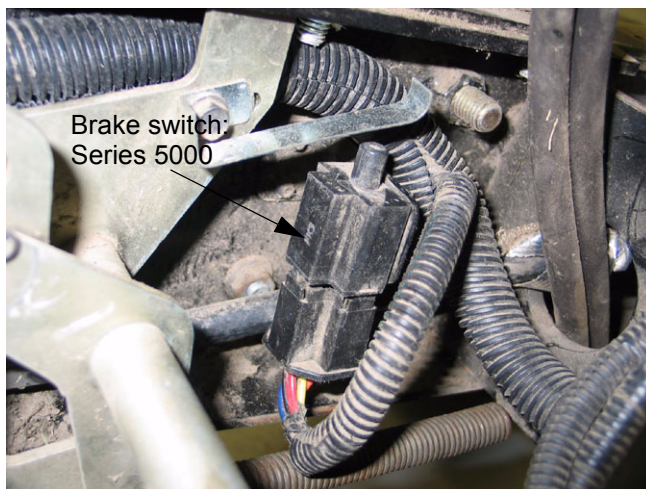

Figure 2.23
- 2.23. The brake switch for the Series 5000 compact tractor is located on the left hand side frame channel, just in front of the pedal linkage, with the plunger vertical (up). See Figure 2.23.